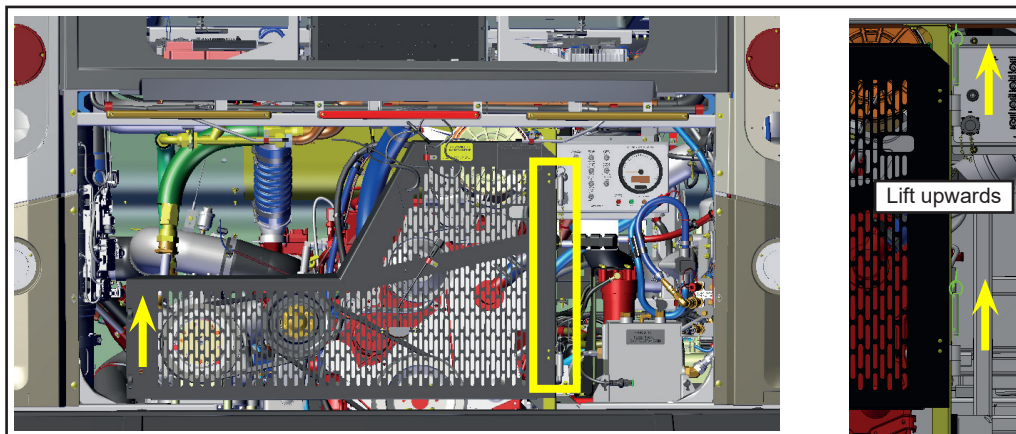

Figure 5 - Removal of Hinge Post
- 1.7. Lift the belt guard upwards to remove it from the hinge post (see figure 5).